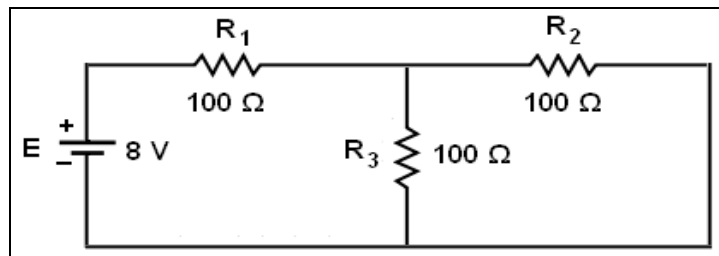

Fig. 1.2-18 Exercise 7
- Find the total current produced by the battery in Fig. 1.2-18